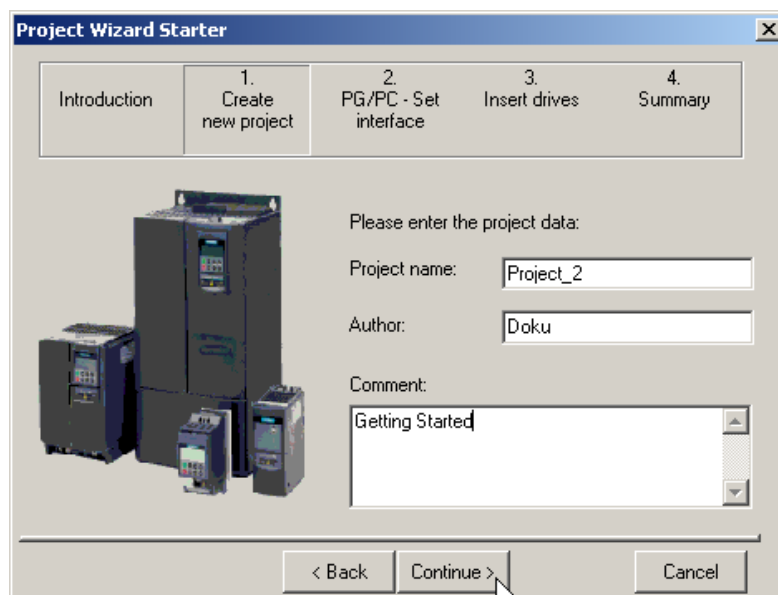

Fig. 3-3 Creating a new project
4. Enter the **project name** and, if required, a **comment** (see Fig. 3-3).